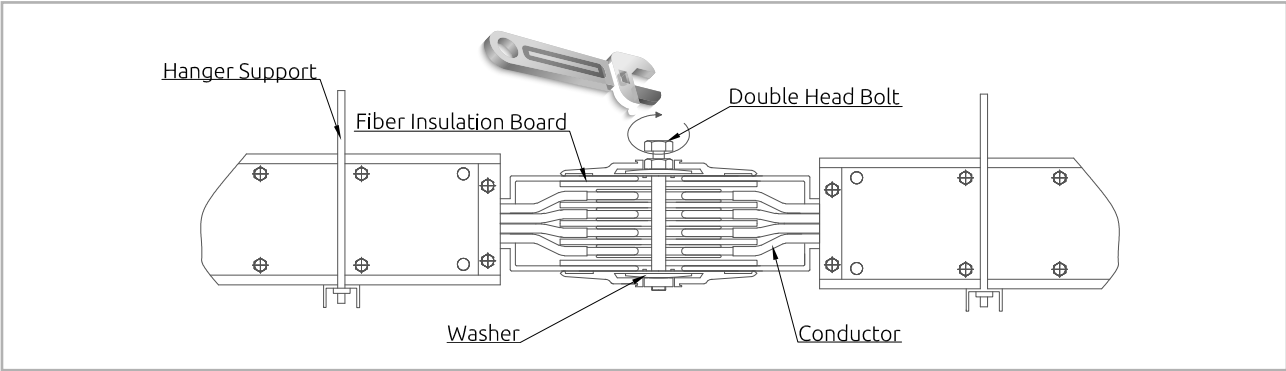

Figure 7.1
4. Tighten the screw until the screw cap is broken and the tag fall (Figure 7.1 & 7.2) means the torque is applied. If necessary, use the torque wrench for double checking the tighten of the bolt. **Make sure the minimum torque is 50 lb-ft or 68N-m.**